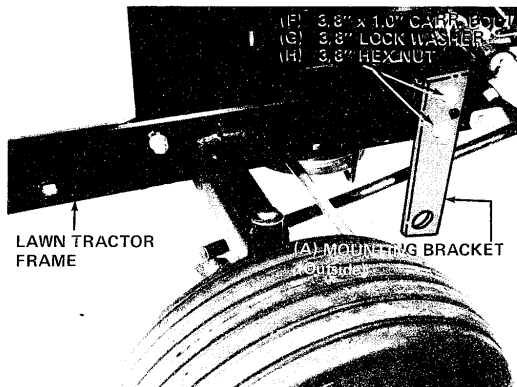

FIGURE 8
3. Assemble mounting brackets (A) to each side of lawn tractor frame using three (*) 3/8" x 1.0" carriage bolts (F), 3/8" lock washers (G) and 3/8" hex nuts (H). See figure 8. Left hand side shown.